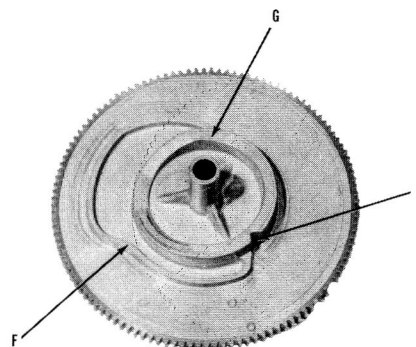

FIGURE 6
As the cam (127) rotates, the hooked end of the tone arm follower (103) moves out of the recess (H), shown in Figure 6, closing the muting switch (119).
The tone arm raise lever (115) rides up the incline portion of track (G), shown in Figures 6 and 7, actuating the lift pin (20), which in turn raises the tone arm from the record.
The shape of the cam face (F), Figure 6, and the spring (101) which pulls on the retracting lever of assembly (103) now moves the retracting lever away from the 7"/10"/12" pin (66) on the tone arm collar (65). This causes the tone arm set-down
The tone arm tension arm (106) pivots on the same stud as does the selector lever assembly (109). The extension arm stud (part of tension arm assembly 106) slides in the groove of the main cam follower (98) and is actuated by this follower. The finger on the tension arm assembly slides in the slot in the link of the raise lever assembly (115). As a result, when the main cam follower rides in the cam groove (D), the finger of the tension arm moves against the end of the slot of the link (assembly 115), Figure 7. This relieves the spring tension on the link, allowing the raise lever (115) to ride down the incline surface of the cam track (G), Figure 6, lowering the tone arm to the record. However, when the control knob is in the position marked "two sides," with the main cam follower riding in the cam groove (E), the tension arm (106) is moved forward, allowing the spring (108) to pull on the link, which in turn pivots the raise lever (115) upward. This action raises the tone arm to the record.
The hooked end of the tone arm follower (103) now rides into the recess (H) of the cam, Figure 6, moving away from the muting switch; at the same time, this causes the pin in the retracting lever (part of assembly 103) to move against the tone arm set-down lever of assembly (102), thus giving free movement to the tone arm. In this position, the tone arm follower (103) also holds the main cam in a neutral position. This completes the change cycle.
2. Tone arm lift pin (20) is missing.
3. Raise lever springs (108) and/or (114) disconnected or missing. These springs apply tension to the link of the raise lever assembly (115), raising the tone arm to the record. (See adjustment of tone arm pressures.)
5. Tone arm raise lever assembly (115) is not riding on track (G), shown Figures 6 and 7.